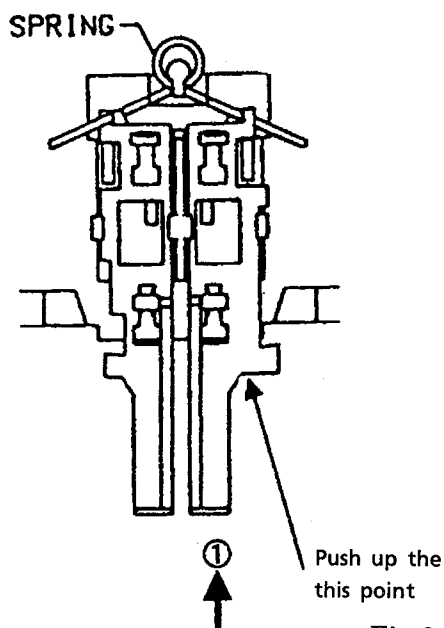

Fig.9
3. Push up the Elevator as shown in the figure below (Fig. 9) and remove the door lock plate.